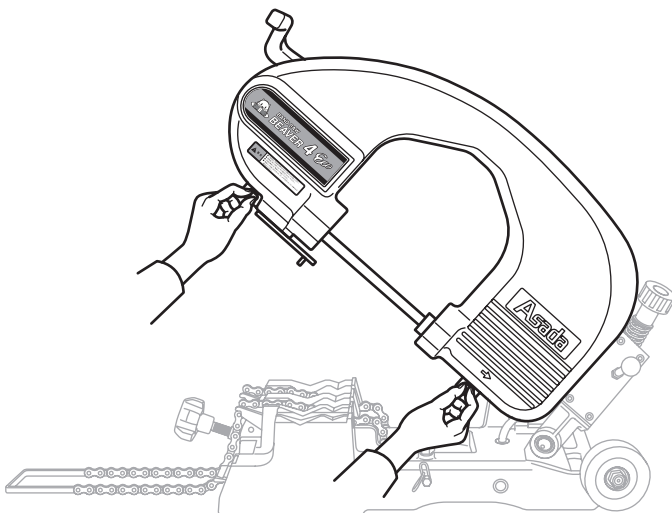

Fig.3
[Fig.3 , 4]
(1)Unlatch the front cover and open the cover. [Fig.3]